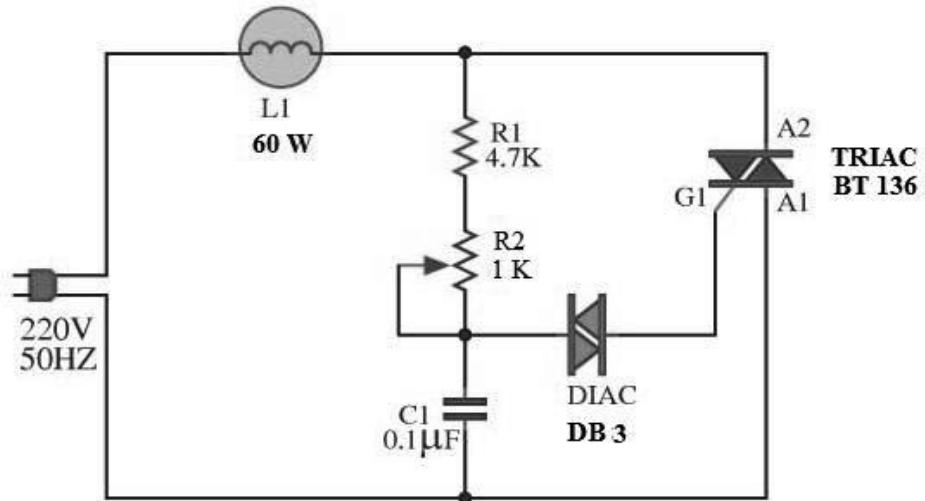

Fig. 16.2 Light dimmer using TRIAC
1. Make the circuit connection as per the circuit diagram shown in Fig. 16.2